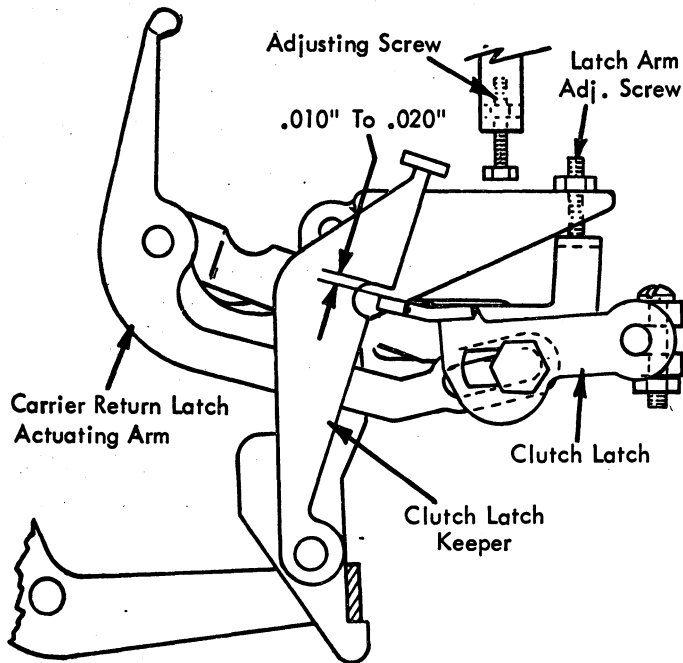

FIGURE 205.1 Clutch Latch Overthrow Adjustment (Late Style)
- 3.1 **Clutch Latch Overthrow Late Style** - Manually operate the carrier return cam to the high point while observing the motion of the clutch latch. It should overthrow the latching surface of the keeper by .010" to .020" (Fig. 205.1). Adjust the carrier return latch arm adjusting screw to obtain this condition.